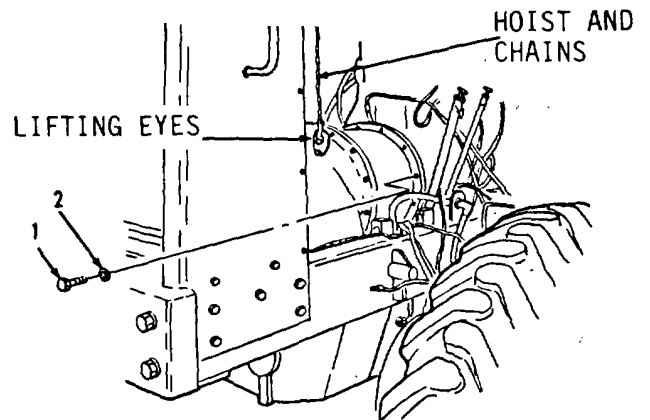
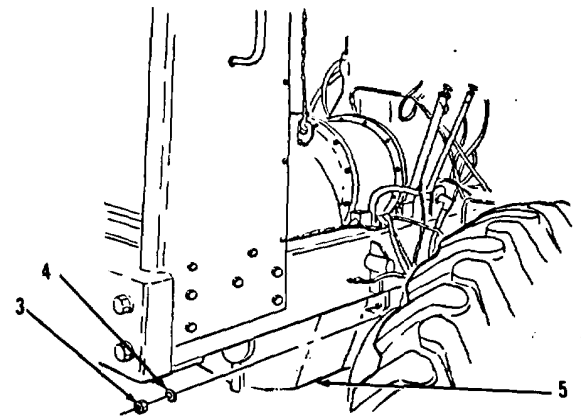

Figure 5-28.
Figure 5-29.
1. Attach hoist and chains to two lifting eyes (Figure 5-28) on transmission.
2. Remove 12 bolts (1) and washers (2) between adapter and flywheel housing.
3. Remove 11 nuts (3) and washers (4) between transmission (5, Figure 5-29) and differential housing.